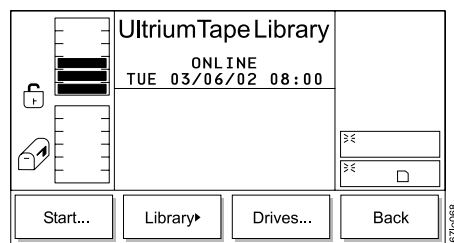

Figure 342. Service Menu
2. Press the button below the **Service** softkey. The Service Menu displays (see Figure 342).